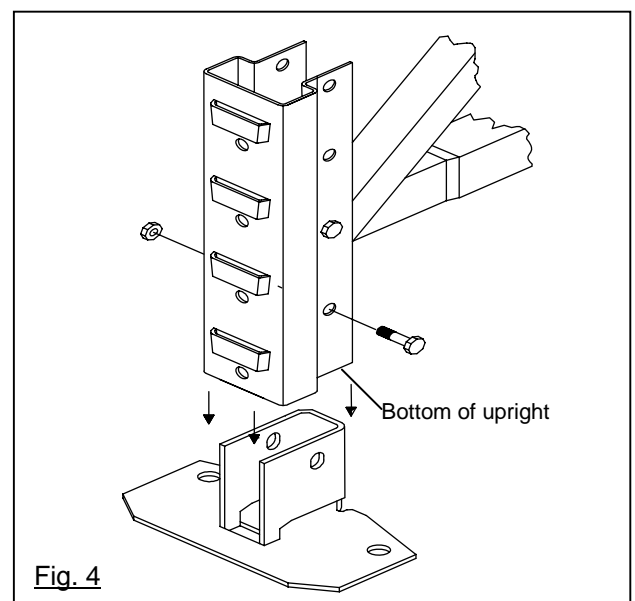

Fig. 4
- STEP 4. Attach the baseplates. These are attached to the upright using a M10 x 55mm bolt and a Nyloc nut. The two floor fixing holes are located to the rear of the upright. Fig. 4